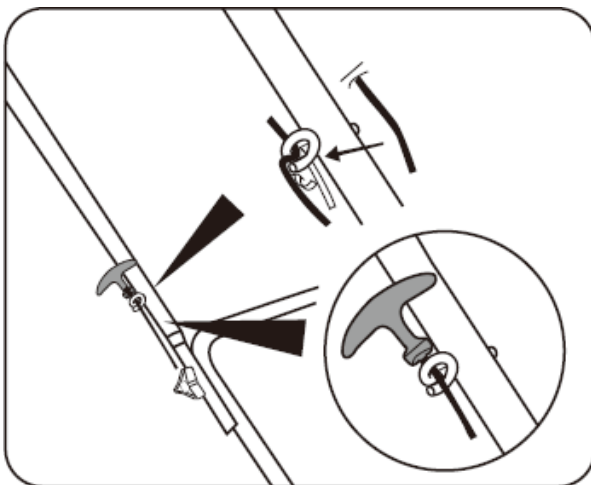

Figure 3-3
3. Put the starter rope into the hook. See Figure 3-3